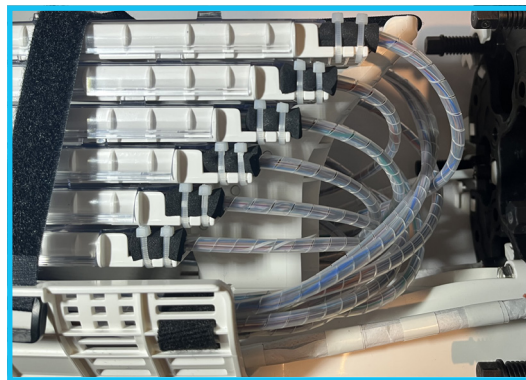

Figure 9.9
9. Continue the same process for each unit binder group in the cable. Each binder group is routed to a separate splice tray. 432f cable will require 6 splice trays [figure 9.9].